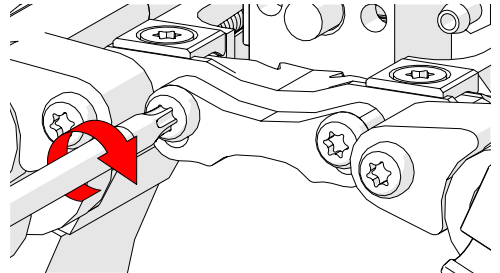

Fig. 36 - Tighten screws
6. Tighten the screws of the setup tabs (Fig. 36).